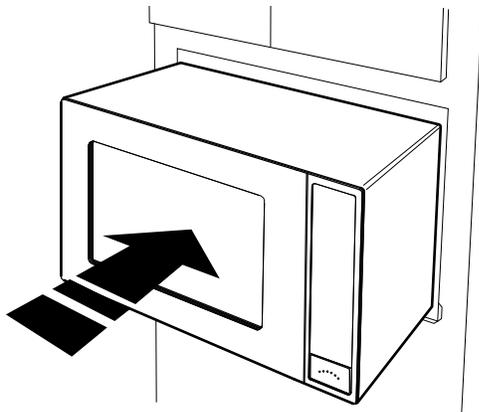
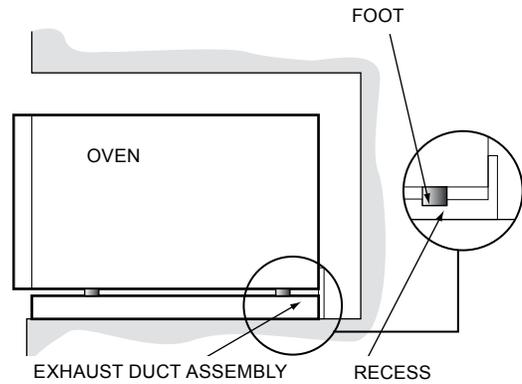

Figure 3
Figure 4
- Carefully guide the assembled oven into the prepared opening. Slide the oven on the EXHAUST DUCT ASSEMBLY. See Figure 3. Avoid pinching the cord between the oven and the wall. Adjust the position of the oven so that the feet of the oven are fitted into the recesses of the EXHAUST DUCT ASSEMBLY. See Figure 4.